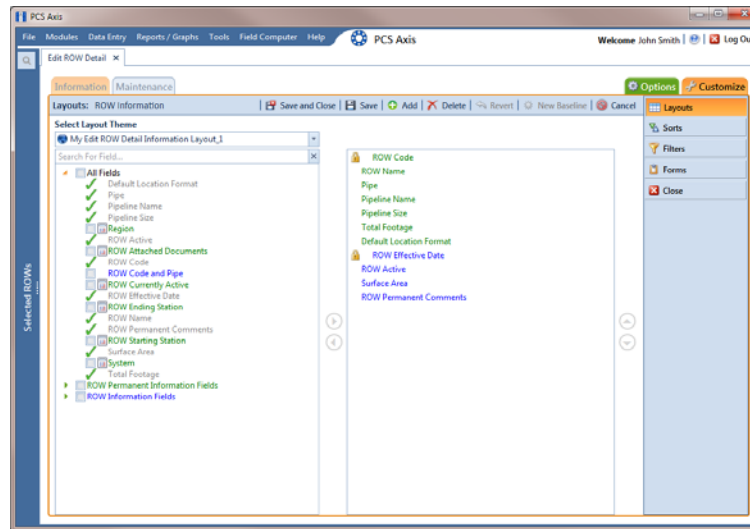

Figure 4-34. Layouts
- 7 Click  **OK** to save changes and return to the *Layouts* page (Figure 4-34).
NOTE: Fields with a lock icon  are required and cannot be removed from the theme, such as  **ROW Code** shown in the previous example (Figure 4-34, page 133).